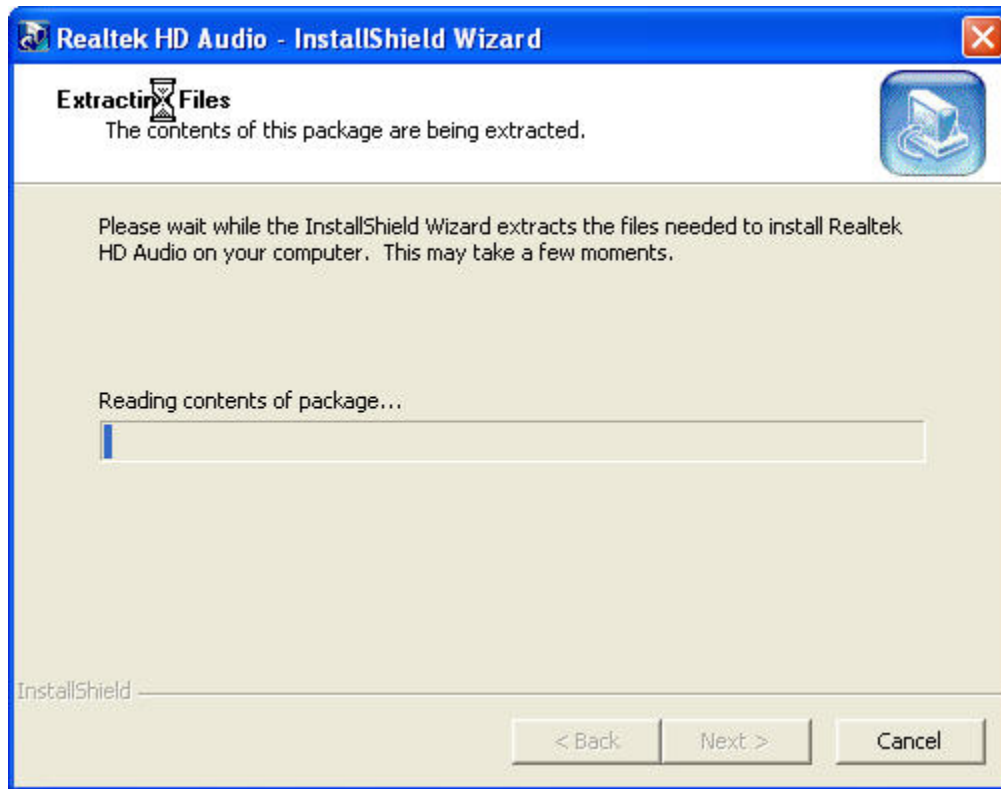

Figure 7-24: HD Audio Driver Setup Extracting Files
Step 4: Once the **WDM_R140** icon is double clicked, the contents of the installation package are extracted. See **Figure 7-24**.